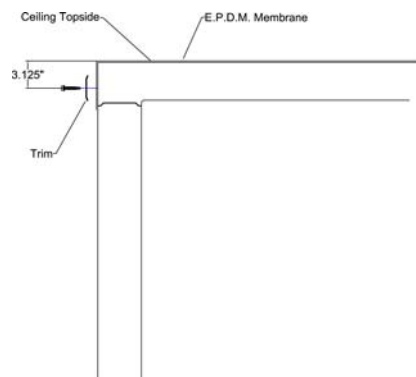

Figure 7
- Attach the trim and door hood by using the provided hex head sheet metal screws. All pieces should be held down 3-1/8" from the ceiling top as shown in Figure 7. Insure the trim and membrane roof material cover the joint between the ceiling and wall panels. **Note:** The trim may have to be cut to fit.